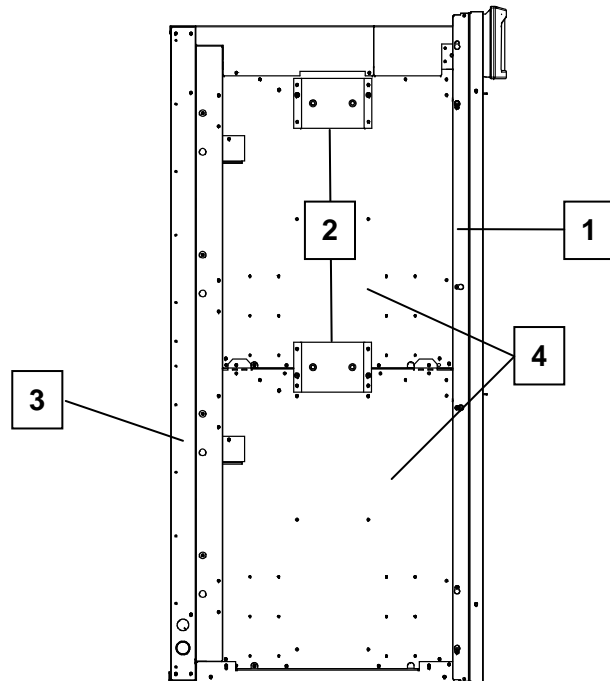

Figure 1
4. Remove side trim (1), vent cover (2), rear support (3) and side wraps (4) as shown in Figure 1. Also disconnect meat probe receptacle if present.